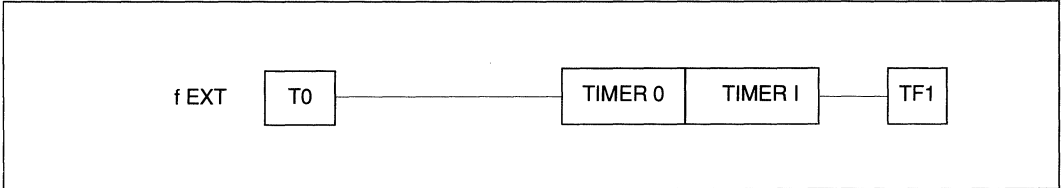

Figure 18 : 32-Bit Counter Configuration.
- Figure 18 illustrates the 32-BIT COUNTER mode.